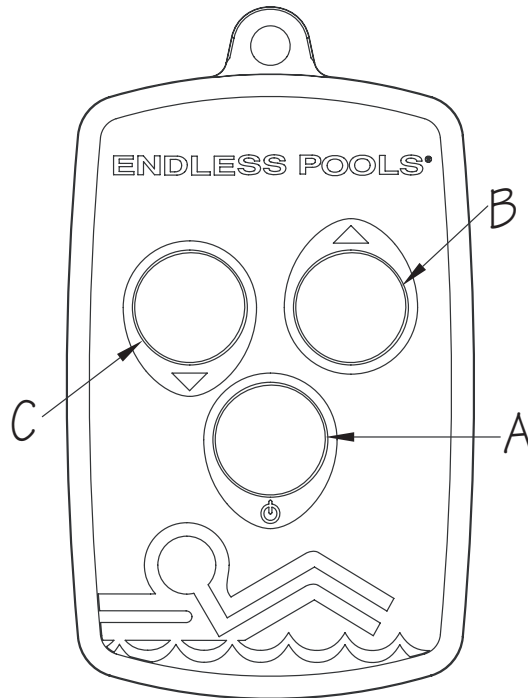

Fig. 25
The Wireless Transmitter is used to operate the Fastlane® Tread. Turn on the Hydraulic Power Unit by pressing and holding the On/Off Button (A). Press and hold the Faster Button (B) to increase the speed of the Fastlane Tread. Press and hold the Slower Button (C) to decrease the speed. Press and hold the On/Off Button to turn the unit off (Fig. 25).